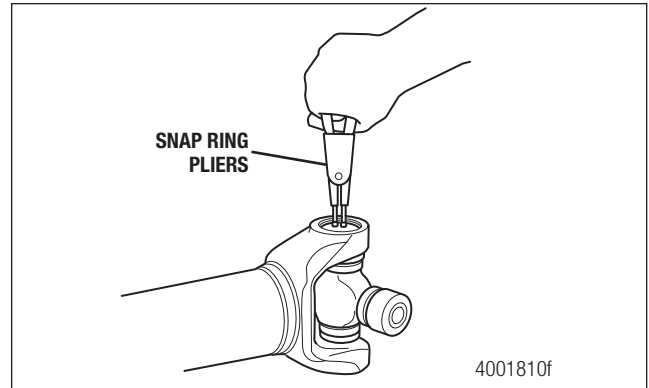

Figure 9.1
1. Use snap ring pliers to remove the snap rings. Figure 9.1.